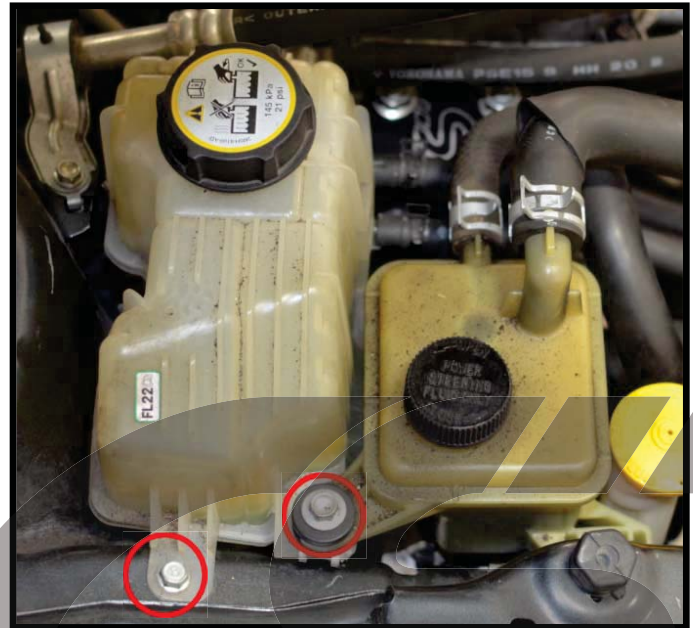

Figure 4a
- a) Remove the two 10mm bolts holding the coolant and power steering reservoir, red circles in Fig 4a, then set to the side.